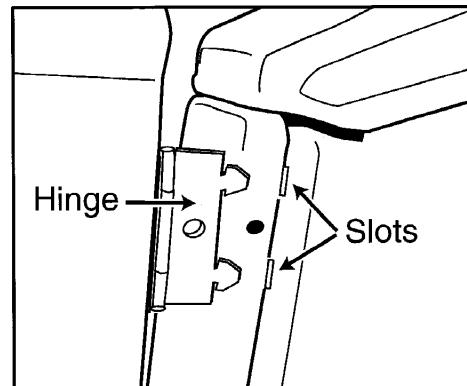

Figure 5-1
- 2 Grasp the door with both hands and lift the hinge area slightly. Draw the door assembly away from the machine. This will disengage the hinges from the slots in the front shroud (**Figure 5-1**). If the hinges bind, press out on the plastic shroud near the hinge toward the cabinet.